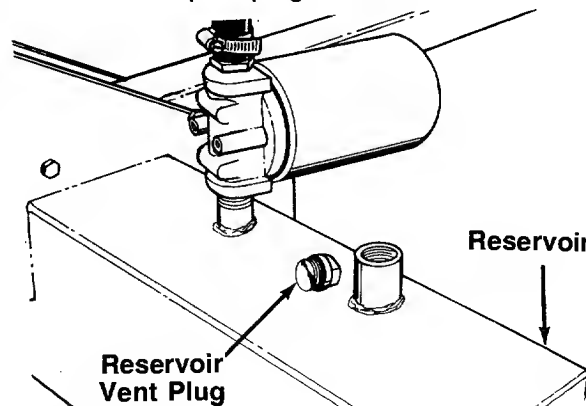

FIGURE 12.
- a. Remove reservoir vent plug. See figure 12. Using Dexron II automatic transmission fluid, or 10W non-foaming hydraulic fluid, fill reservoir to the top. Replace vent plug securely.